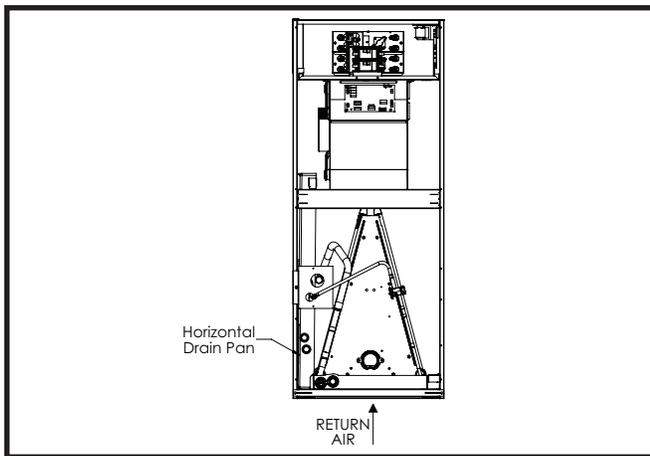

Figure 1. Upflow Installation
- All air handler units have a factory installed leak detection sensor (LDS) on the front delta plate of the coil as shown in Figure 1. This location of the LDS is valid for upflow, downflow and horizontal applications.
All air handlers are factory shipped, ready for upflow installation. The horizontal drain pan may be removed from the air handler when installing the unit in an upflow configuration. All return air must enter from the bottom of the unit. A typical upflow unit is shown in Figure 1 \(page 10\).